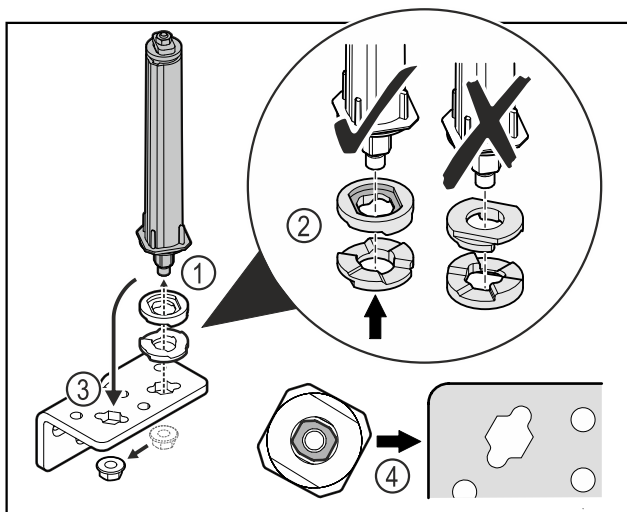

Fig. 42
- Loosen the nut and remove the door closing system *Fig. 42 (1)*.
- Observe the correct alignment of the height adjustment washers *Fig. 42 (2)*.
- Put the door closing system in the hinge and fix in place with the nut *Fig. 42 (3)*.
- Observe the correct alignment of the door closing system when doing so *Fig. 42 (4)*.